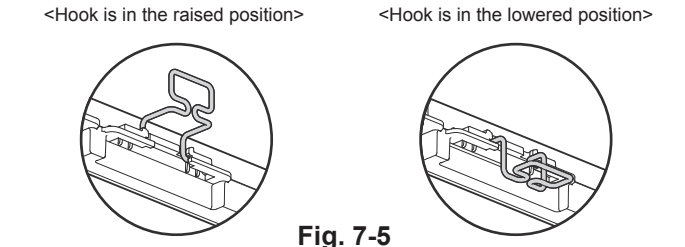

Fig. 7-5
7.4.1. Preparations (Fig. 7-5)